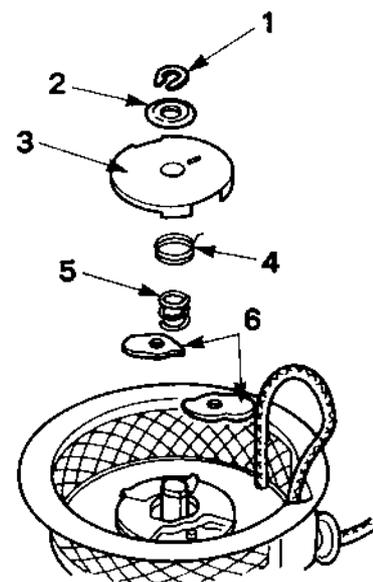
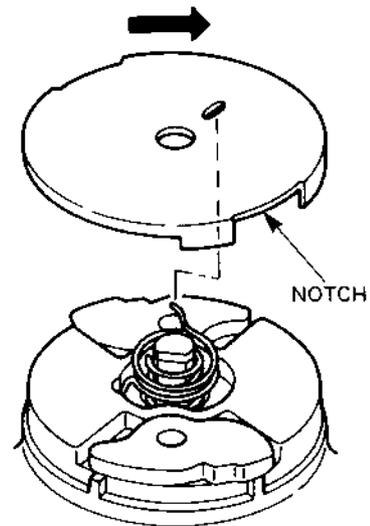

FIG. 80
FIG. 85
- (3) When removing, take out the parts in the order of the numbering in Fig. 80.
(4) When reassembling the parts, follow up in the reverse order to Fig.80. When putting the friction plate in the hole for it, set the return spring a little upward as shown in Fig.85 so that the friction plate can easily be put in the hole for it.